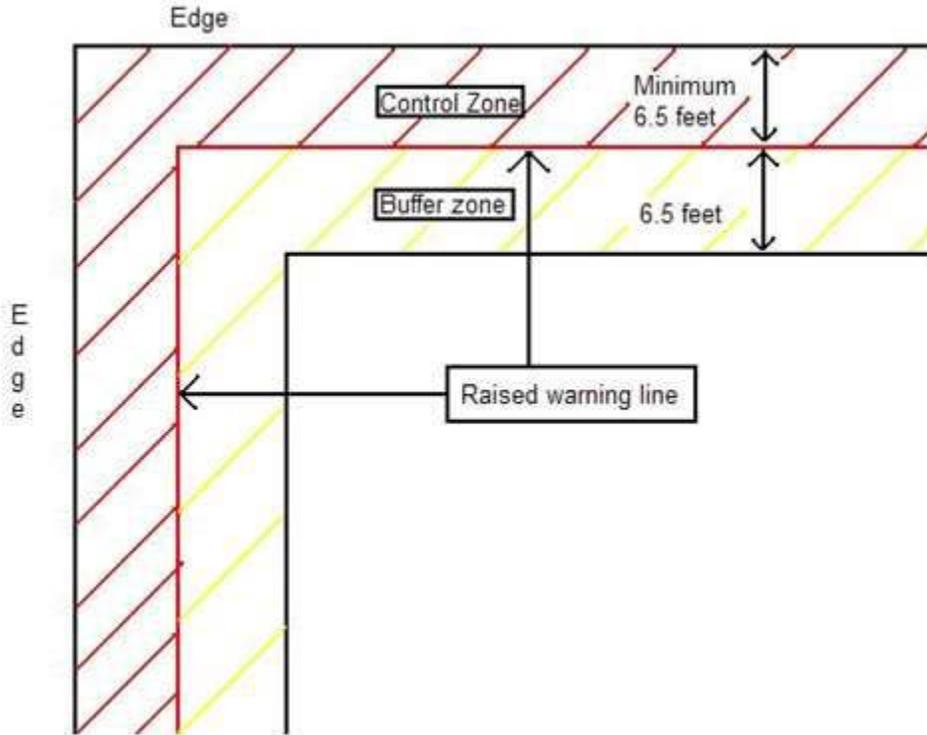

Figure 1
<p>Procedure</p> <ol style="list-style-type: none"> 1. Directions <ol style="list-style-type: none"> a. A control zone with a safety monitor may be used as the means of fall protection under section where it is not practicable to use a method of fall restraint or fall arrest or where the use of a fall arrest system will result in greater hazards b. Use of a control zone is not permitted on a working surface where the slope of the surface exceeds 3 vertical inches in 12 horizontal inches or for scaffolds 2. Definitions (See Figure 1) <ol style="list-style-type: none"> a. Control Zone means the area between an unguarded edge of a building or structure and a line which is set back a safe distance of at least two meters (6.5 feet) b. Safety Monitor System means a system in which a trained worker is designated to monitor work activities in a control zone to ensure that work is done in a manner that minimizes the potential for a worker to fall c. Buffer Zone means the area immediately outside the inner edge of the control zone and extending a further two meters (6.5 feet) in from that edge 3. Width of the Control Zone <ol style="list-style-type: none"> a. Must be at least two metres (6.5 feet), with additional distance if any of the following conditions exists: <ol style="list-style-type: none"> i. The working surface is slippery or sloped ii. The work is carried out at an elevation relative to the unguarded edge iii. The risk is increased by the use of equipment near the control zone b. Only workers directly required for the work at hand should be inside the control zone
4. Raised Warning Line (See Figure 1)